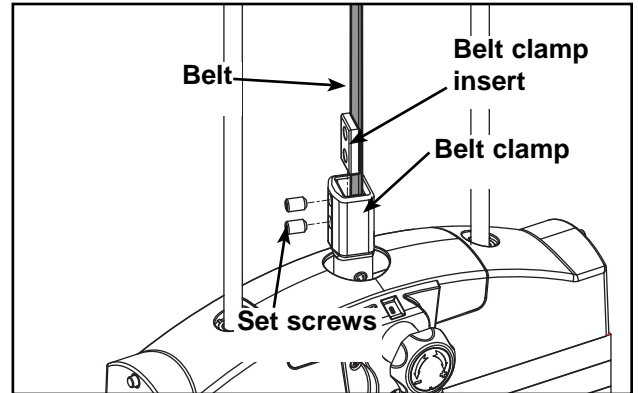

Figure 9
- E. Pull belt tight and secure belt to clamp with the two set screws. **NOTE:** Torque set screws 300-350 in./lbs. See Figure 9.